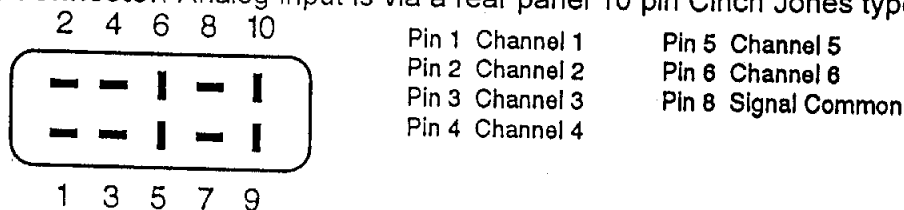

Figure 5
2. **Analog Input Connector:** Analog input is via a rear panel 10 pin Cinch Jones type connector. See Figure 5.